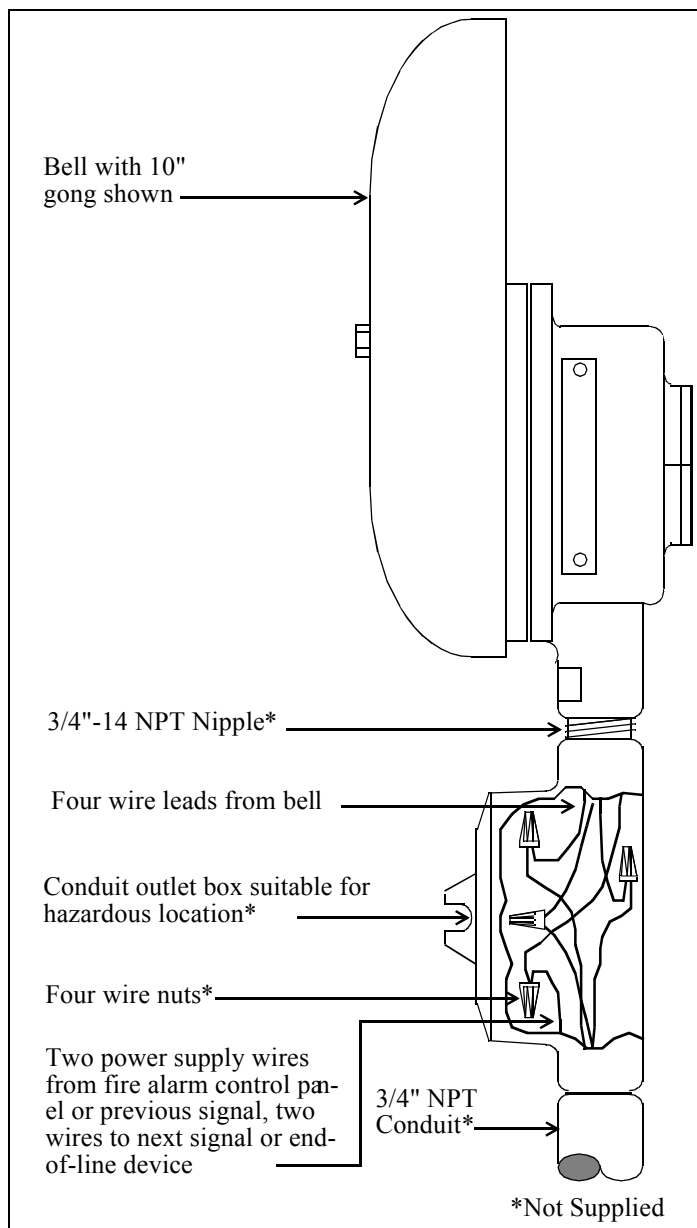

Figure 1. Details.
1. Refer to Figure 1. Remove gong support bolt, remove gong and set aside. Bring bell wires through nipple and secure nipple onto bell (being careful not to twist or crimp wires). Feed bell wires into outlet box and secure outlet box onto nipple (again being careful of wires). Secure the 3/4" NPT conduit onto the outlet box.